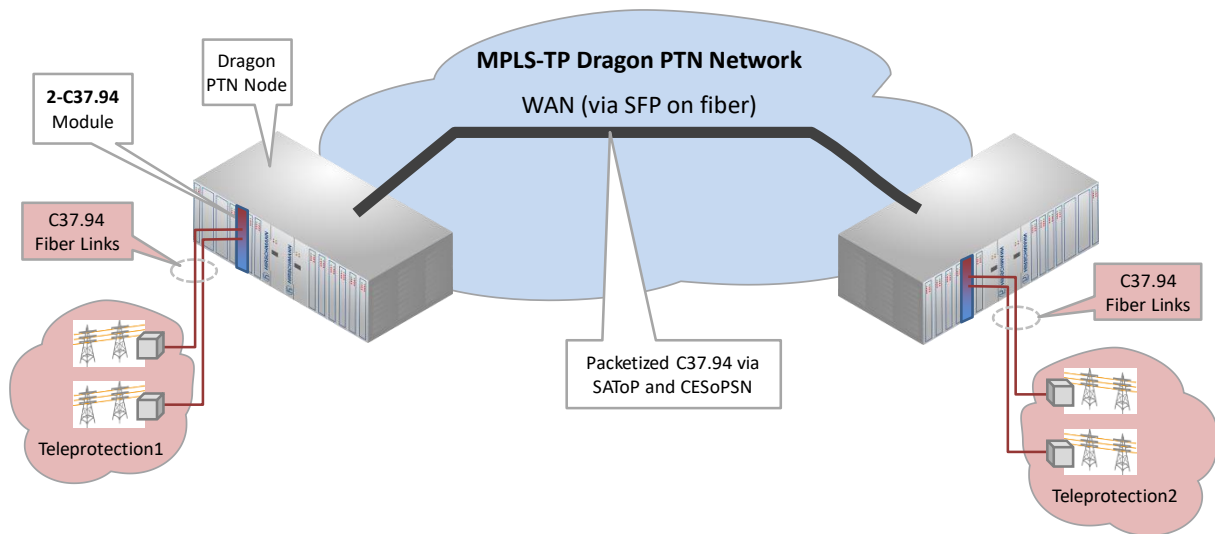

Figure 2 Circuit Emulation C37.94: Transport C37.94 Data via Dragon PTN
- ▶ Circuit Emulation C37.94 (see Figure 2): The IFM uses backplane access and transports the received C37.94 data over the Dragon PTN network to a destination C37.94 port. Service in HiProvision = 'Circuit Emulation - C37.94'.